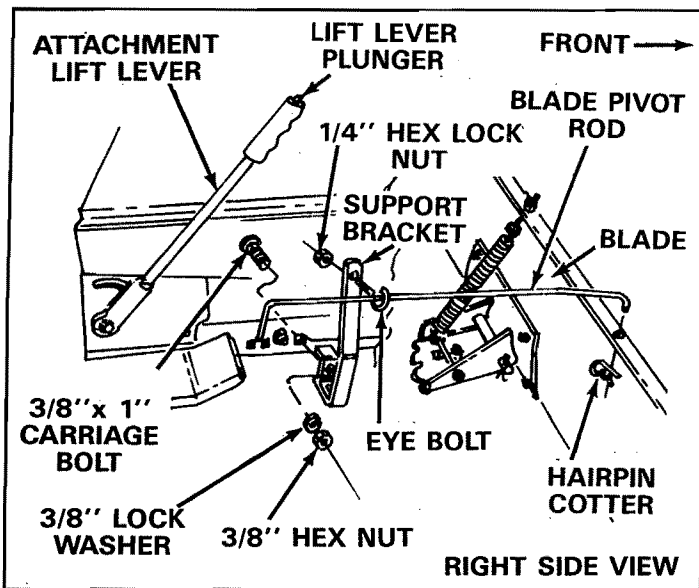

FIGURE 19
19. Assemble support bracket onto right hand side of tractor frame (where carriage bolt was removed in step 15) using 3/8" x 1" carriage bolt inside of frame and secure with 3/8" lock washer and 3/8" hex nut, on outside of frame. See figure 19.
20. Assemble the 1/4" eye bolt at the top of the support bracket and secure with one 1/4" hex lock nut. See figure 19.
21. Assemble blade pivot rod through 1/4" eye bolt as shown in figure 19. Secure lower end of blade pivot rod through hole on right hand side of blade assembly with small hairpin cotter. See figure 19.